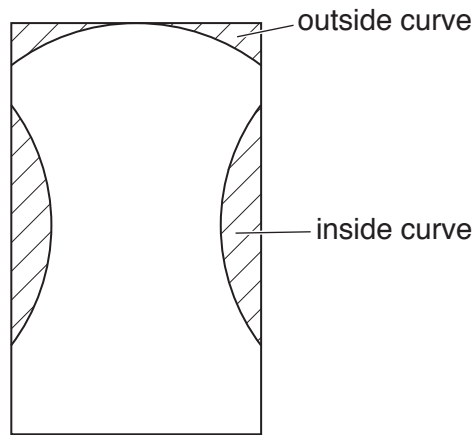

Fig. 12
- (c) Fig. 12 shows one end of the bird feeder marked out ready to be cut to shape.